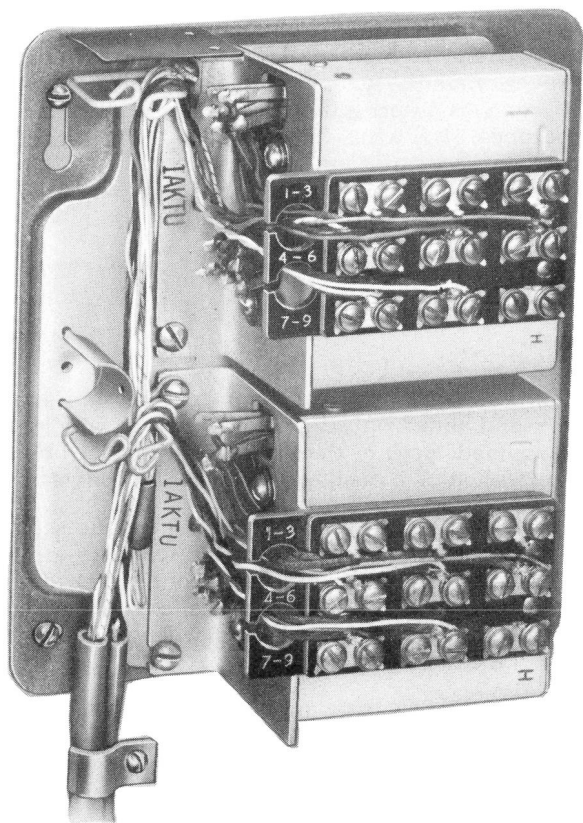
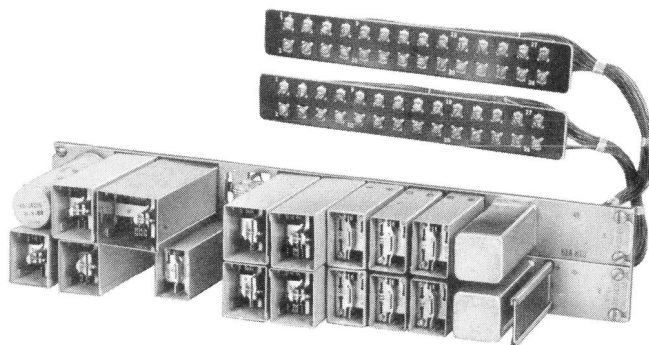
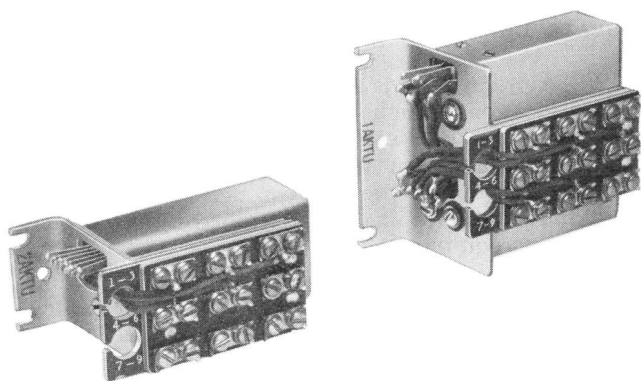

FIG. 1 — 105A APPARATUS BOX WITH TYPICAL UNITS
FIG. 2 — 1A KEY TELEPHONE SYSTEM, 51A KEY TELEPHONE UNIT
FIG. 4 — 1A KEY TELEPHONE SYSTEM, SINGLE AND DOUBLE UNITS
1.03 The 1A system relay apparatus is designed in two different physical arrangements: On small angle-bracket mounting plates holding one or two relays which generally are mounted in 105-type apparatus boxes (see Fig. 1), and on 1-3/4- by 19-inch strip-mounted facilities of the 50-type KTU designed to be installed in equipment cabinets (see Fig. 2). Local power from transformers, rectifiers, building-floated batteries, CO cable pairs, etc, is required to provide auxiliary service features such as visual and audible signals, intercommunicating, automatic time out, etc.
3.01 The 1A key telephone system uses bent angle-bracket units, single or double, as relay equipment (see Fig. 4). For small installations, the units may be mounted in the 105-type apparatus box (see Fig. 1). For large installations, the units may be mounted on bent angle bars in a standard equipment cabinet.
3.02 Where the 1A key telephone system provides 19-inch mounting-plate units as relay equipment (Fig. 2), they may be mounted in an equipment cabinet. It may be necessary to use bent angle units (Fig. 4) to provide certain optional service features and, in such cases, a mounting bar will be required.